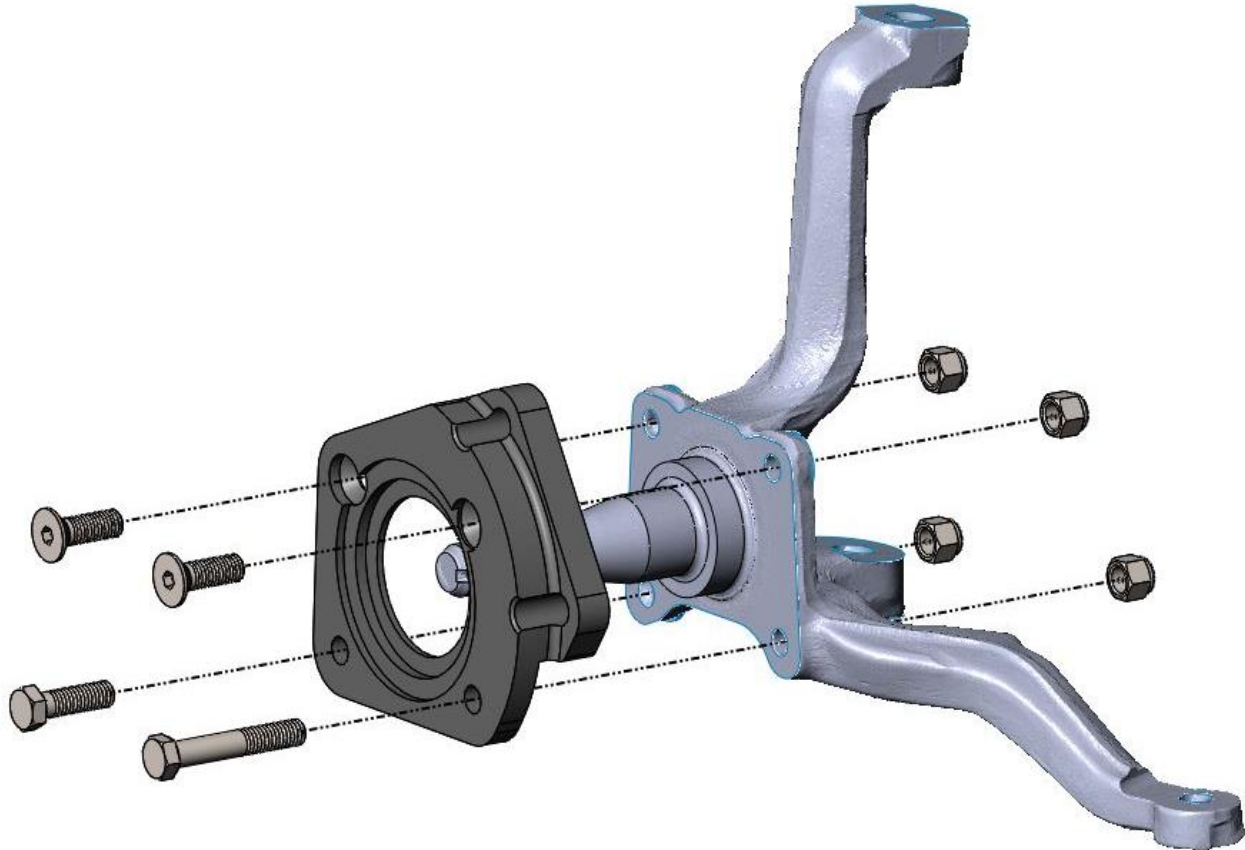

Figure 2 – Primary Caliper Bracket Installation (Driver Side Shown)
5. Install the primary caliper mounting bracket on the spindle. Position the bracket so the caliper will attach on the “trailing” side of the spindle and using two 3/8”-16 x 1.250” Countersunk Grade 8 bolts, one 3/8”-16 x 1.250” Grade 8 Hex Head Bolt, and one 3/8”-16 x 2.250” Grade 8 Hex Head Bolt along with four 3/8”-16 Nyloc Lock Nuts, torque the bolts to 35 ft/lbs. **NOTE: The brackets are driver side (p/n: 6610128) and passenger (p/n: 6620128) side specific.** See Figure 2 below for reference.